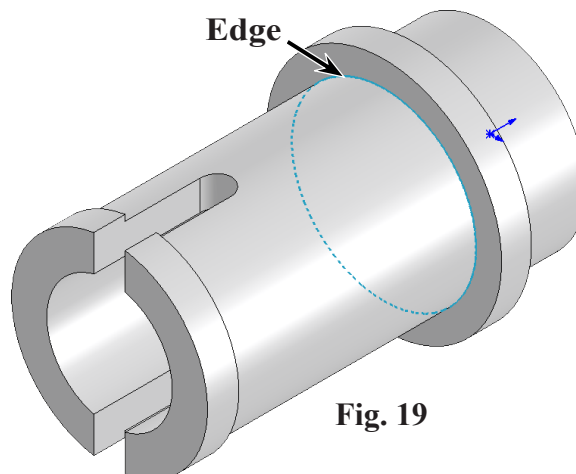

Fig. 19
Step 1. Rotate view to under cap, **Fig. 19**. To rotate view, **Shift** click the X  axis of the Reference Triad  one time.
click **top circular edge of shaft under top rim**, **Fig. 19**